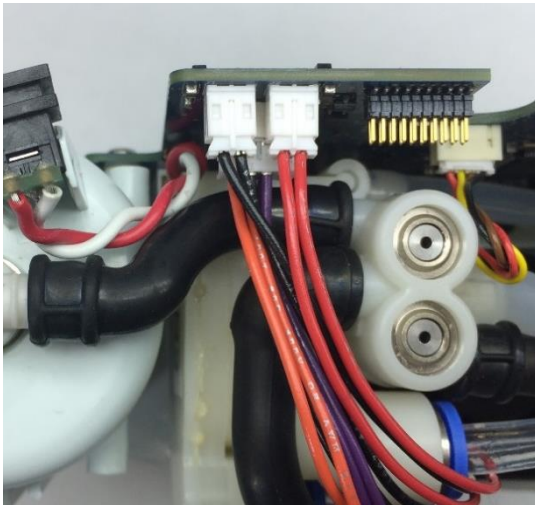

Figure 6: Feed Waste Manifold Harnesses
2. Carefully disconnect the feed waste manifold harnesses and the product manifold harness from the motherboard using pliers to pull the white connectors off of the pins and away from the motherboard (Figures 6 and 7).